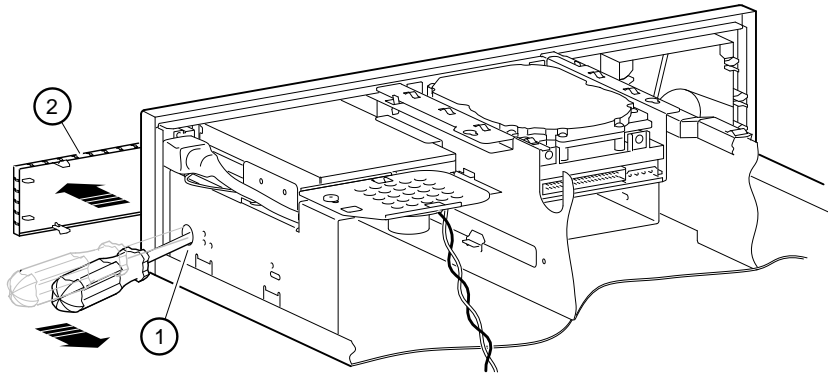

Figure 4-17 Removing Storage Bay Blank Panel
1. Insert a screwdriver ① through the access port and gently pry the blank panel ② out, as Figure 4-17 shows.